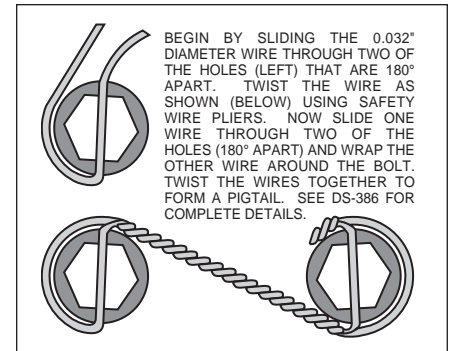

Figure 3. Safety Wire Diagram
- The flat spindle/caliper mounting bracket (1) should be installed first with clean, dry threads on the mounting bolts. Install the bracket on the back side of the spindle by sliding bolt (2) through the bracket (1) and into the upper hole of the spindle upright boss. Apply red *Loctite*® 271 to the threads and torque bolt (2) to 140 ft-lb. Slide bolt (3) through lower spindle “ear”, through the bracket (1), washer (4), and secure with locknut (5). Torque locknut (5) to 65 ft-lb. The bracket must tighten squarely against the side of the spindle body. Inspect for interference from casting irregularities, machining ridges, burrs, etc.
- With the larger I.D. side of the rotor (6) facing away from the hat (7), bolt rotor (6) to hat (7) through the backside of the rotor using bolts (9), and washers (8). Using an alternating sequence, apply red *Loctite*® 271 to the threads and torque bolts to 155 in-lb. For an added measure of security, the bolts may be safety wired using standard 0.032 inch diameter stainless steel safety wire as shown in Figure 3. Please refer to Wilwood’s data sheet DS-386 (available at [www.wilwood.com/Pdf/DataSheets/ds386.pdf](http://www.wilwood.com/Pdf/DataSheets/ds386.pdf)) for complete safety wire installation instructions.